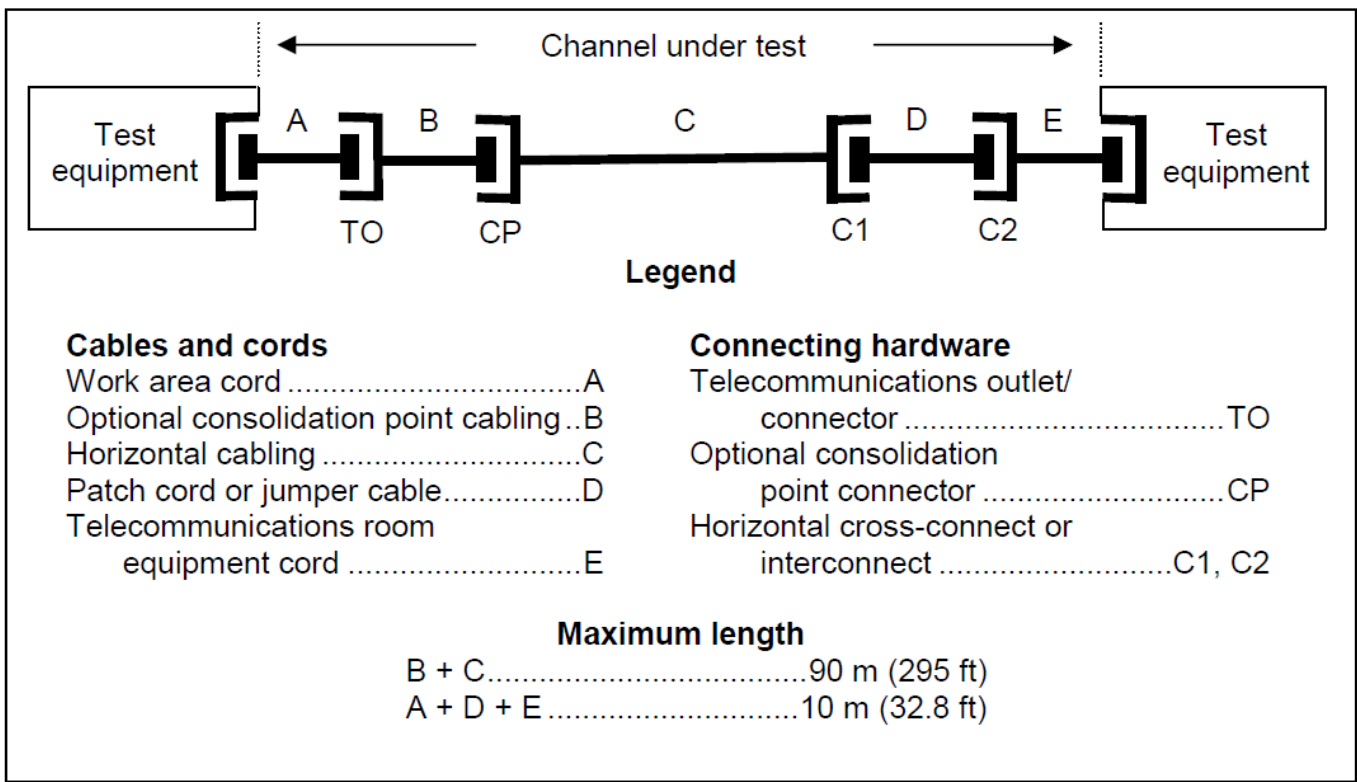

Figure 3: Channel test configuration
- Install the tester and the remote unit on both sides of the Permanent Link as shown in Fig.3.